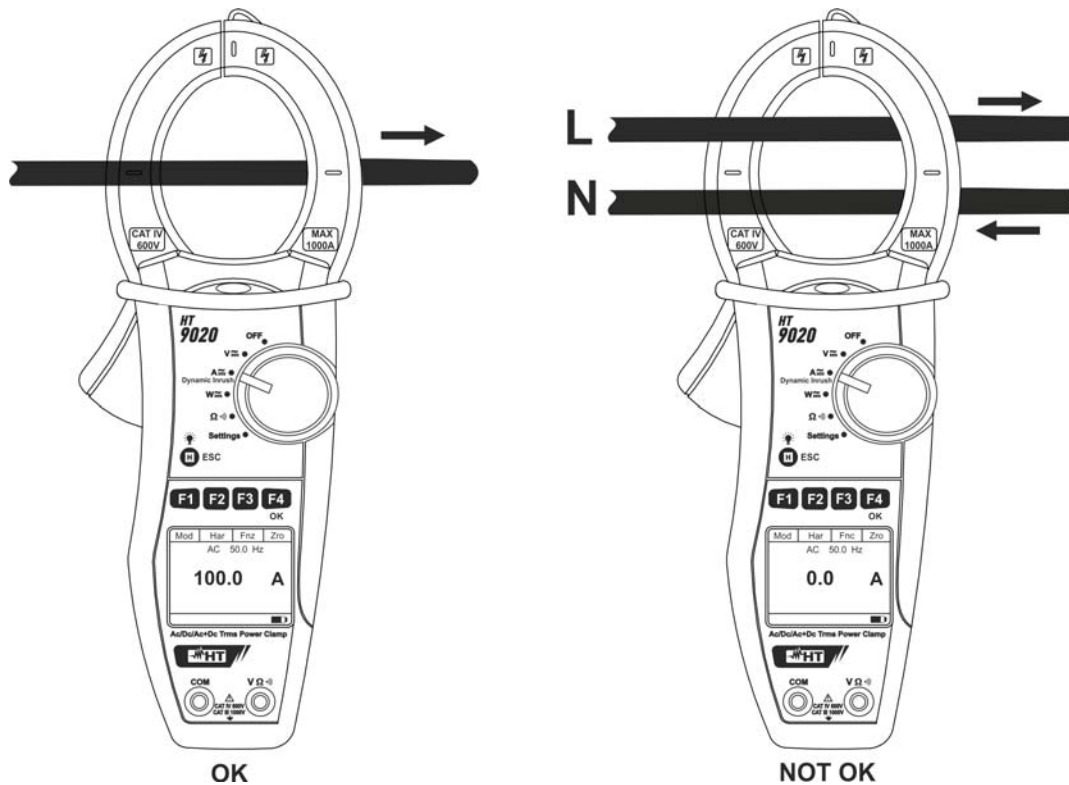

Fig. 10: AC/AC + DC current measurement
5. Connect the cable to the middle of the clamp jaws, in order to get accurate measurements (see Fig. 10 – left part). Use the marks as a reference (see Fig. 2)